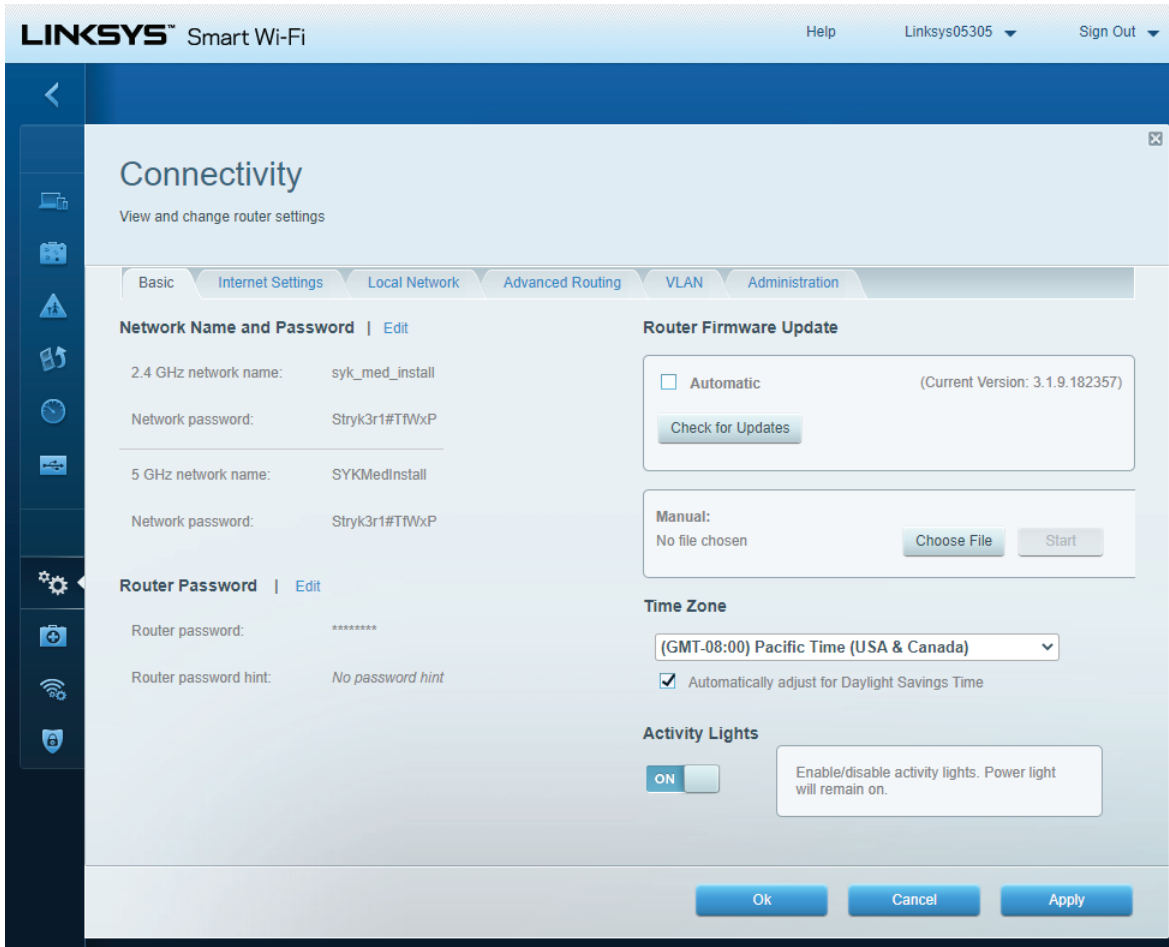

Figure 57 – Basic tab
2. In the **Basic** tab, edit the 2.4 GHz and 5 GHz Wireless Settings so that they match (Figure 57).